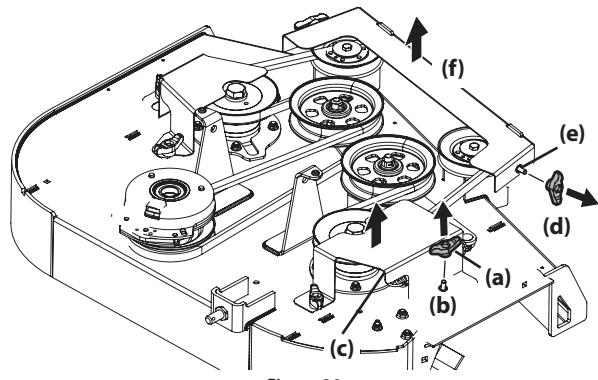

Figure 38
- Remove the wing knobs (a) from the carriage screws (b) securing the side belt covers (c) to the deck and remove the side belt covers (Figure 38).
- Remove the wing knobs (d) from the carriage screws (e) securing the front belt cover (f) to the deck and remove the front belt cover (Figure 38).